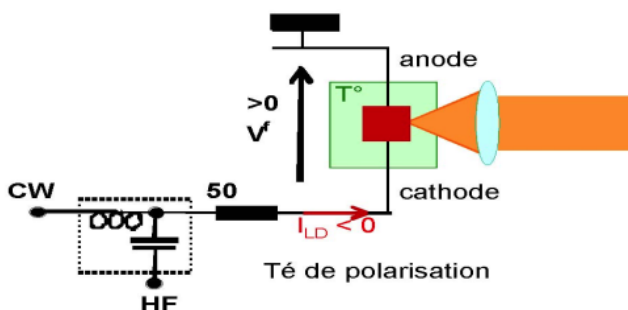

Figure 5: Electronic configuration of the laser diode; continuous supply current + RF modulation
- Connect the Fabry-Perot following the layout of Fig. 5; observe the triangular modulation signal applied to the piezoelectric actuator (scan/monitor) on the oscilloscope ($I = 75 \text{ mA}$ and $T = 25^\circ\text{C}$).